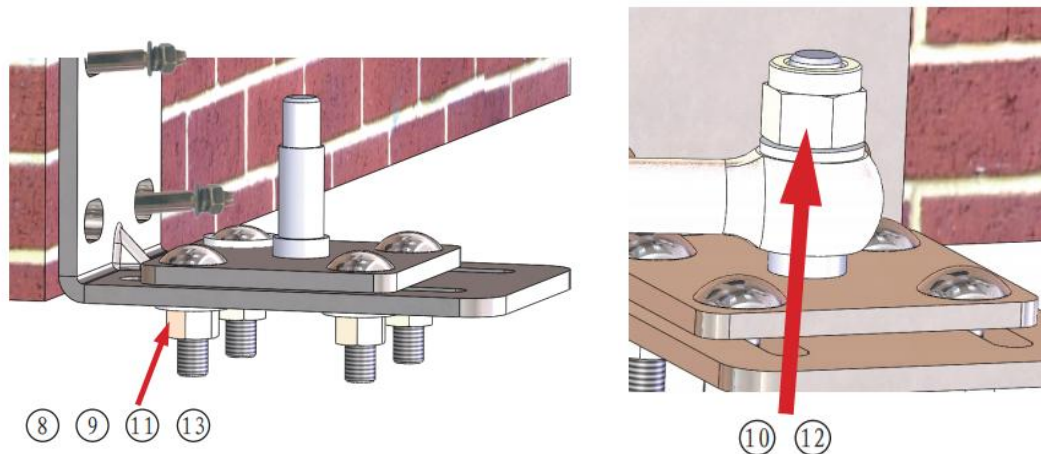

Fig 8
5. After the rear bracket is installed on the wall, adjust the door opening angle and tighten the screws. See Fig 8